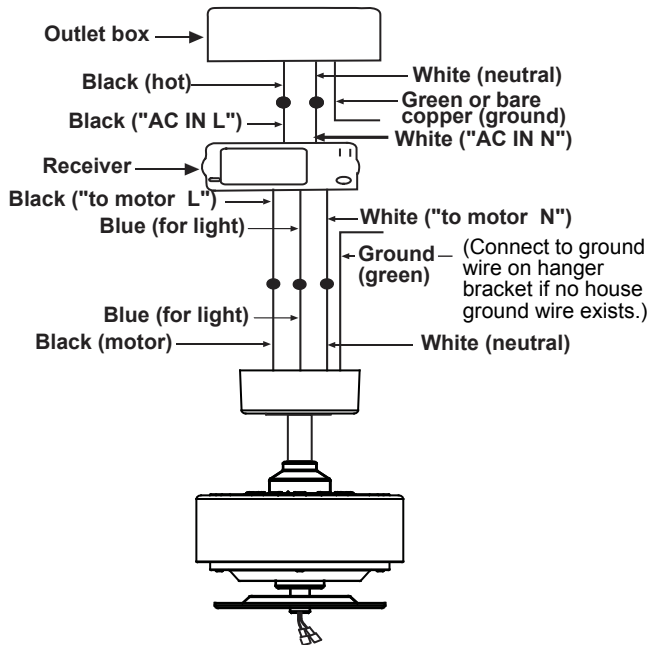

Fig. 15
Step 2. Motor to Receiver Electrical connections: Connect the black wire from the fan to the black wire marked "TO MOTOR L" on the receiver. (Fig. 15)
Step 3. Receiver to House Supply Wires Electrical Connections: Connect the black (hot) wire from the ceiling to the black wire marked "AC in L" from the receiver. Connect the white (neutral) wire from the ceiling to the white wire marked "AC in N" from the Receiver. Secure the wire connections with the plastic wire nuts provided. (Fig. 15)
Step 4. If your outlet box has a ground wire (green or bare copper) connect it to the fan ground wires; otherwise connect the hanging bracket ground wire to the mounting bracket. Secure the wire connection with a plastic nut provided. After connecting the wires, spread them apart so that the green and white wires are on one side of the outlet box and black and blue wires are on the other side. Carefully tuck the wire connections up into the outlet box. (Fig. 15)